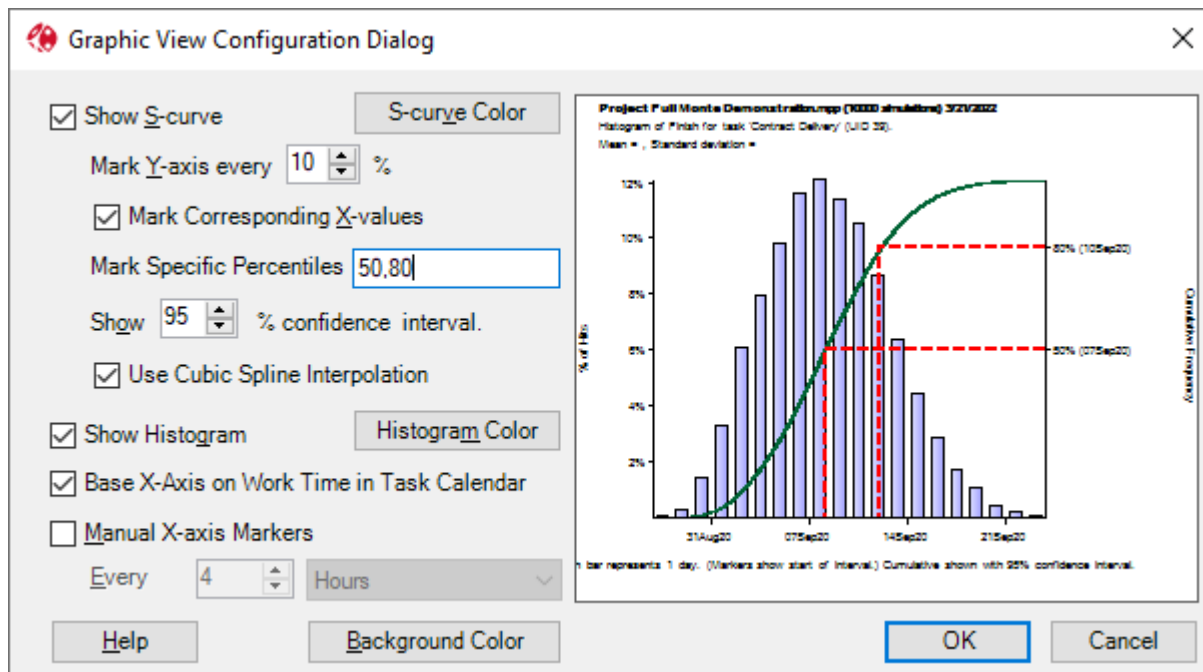

Figure 10.3
If the user enters specific Y axis values such as ‘50,80’ then only those interesting lines will be drawn. All other intersecting lines will be suppressed as shown in the preview in Figure 10.3.
1. A view showing the s-curves generated by the two simulations, as shown in figure 10.3, is displayed. (This can be suppressed by unchecking the checkbox in the previous dialog.)
The view shown in figure 10.3 shows a pair of S-curves representing the cumulative frequency function for the project finish on two alternative assumptions: that the duration of activity EC1290 takes its most optimistic value and that it takes its most pessimistic value.